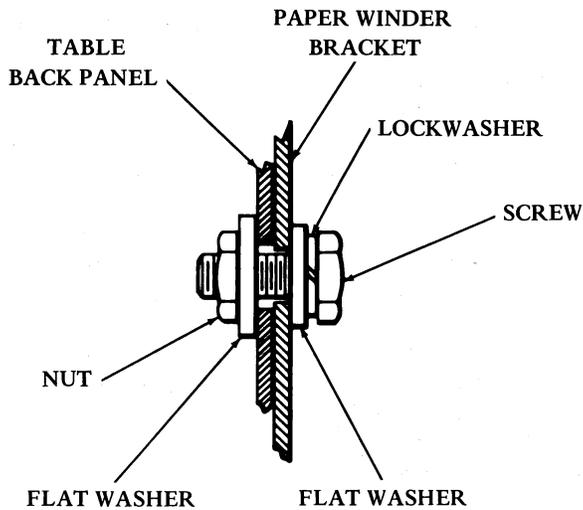

Figure 5 - Paper Winder Mounting
- 3.03 After the holes have been drilled in the back panel, mount the winder using four screws, lockwashers, nuts, and eight flat washers provided in a small bag tied to the winder (Figure 5).
- 3.09 After the holes have been drilled, mount the winder with the hardware provided in the small bag tied to the winder. See Figure 5.